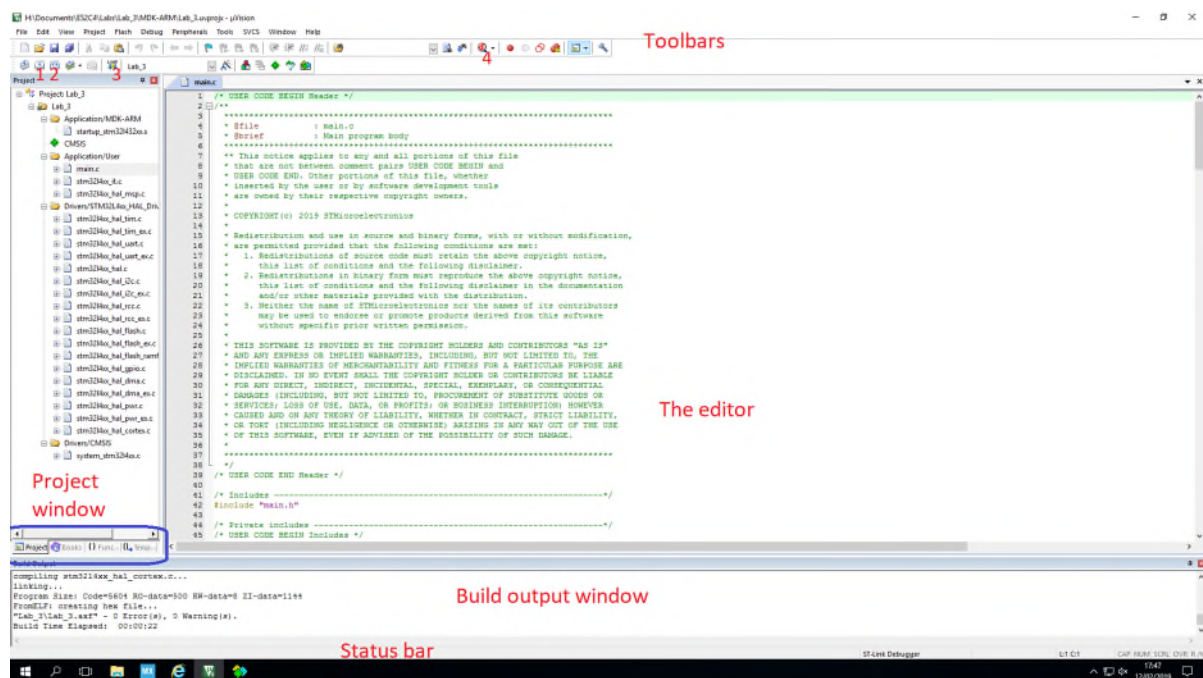

Figure 2: Keil MDK user interface
The features of the Keil user interface (UI) in Build mode is annotated in Figure 2. On the Project window to the left of the UI, select the drop-down arrow by the **Application/User** folder and double click the **main.c** file to open it. This file is where our program resides, and it is similar to the **main.c** file you created in the Labs 1,2 and 3. Buttons 1 and 2 highlighted in Figure 2 are used to **Build** and **Rebuild** your program. Button 3 is used to load the program to the MCU. Button 4 is used to enter **Debug** mode. In **Debug** mode, you can step through your instructions and observe how it runs on the MCU.